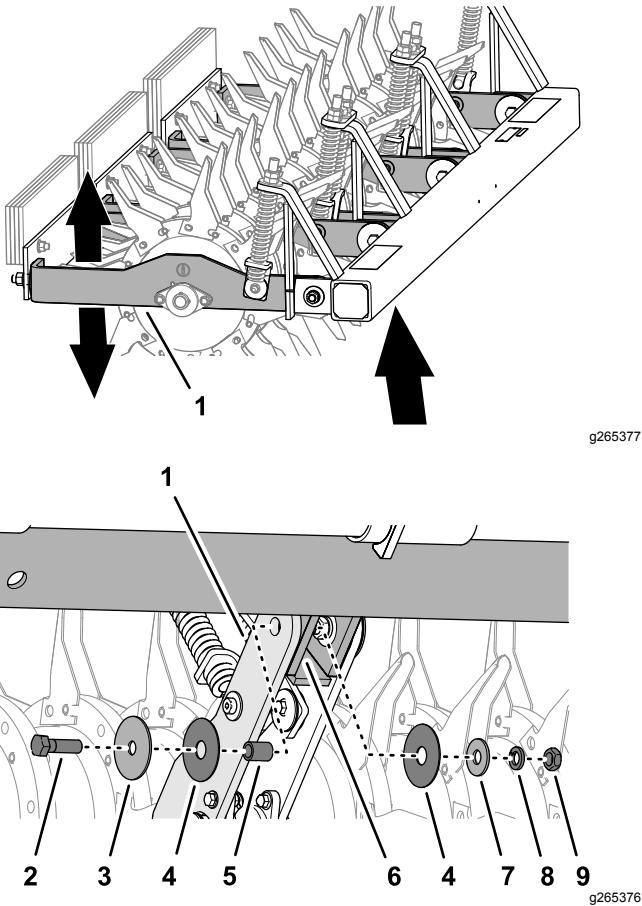

Figure 28
The 6 main arms pivot freely horizontally and vertically to allow the unit to follow the contour of the ground. A bronze bushing is pressed inside the pivot holes between the main arms and frame mounting brackets (Figure 28).
- Check that the 6 main arms pivot freely (Figure 28).
- Remove the bolt, nut, washers, and bushing, that secure the main arm to the frame mounting bracket (Figure 28) and check the hardware for wear.
- Assemble the main arm to the frame mounting bracket with the bolt, nut, washers, and bushing (Figure 28).